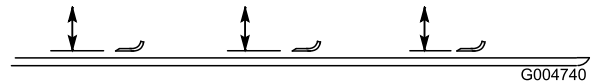

Figure 82
2. Rotate the blade until the ends face forward and backward (Figure 82). Measure from the inside of the cutting unit to the cutting edge at the front of the blade. Remember this dimension.